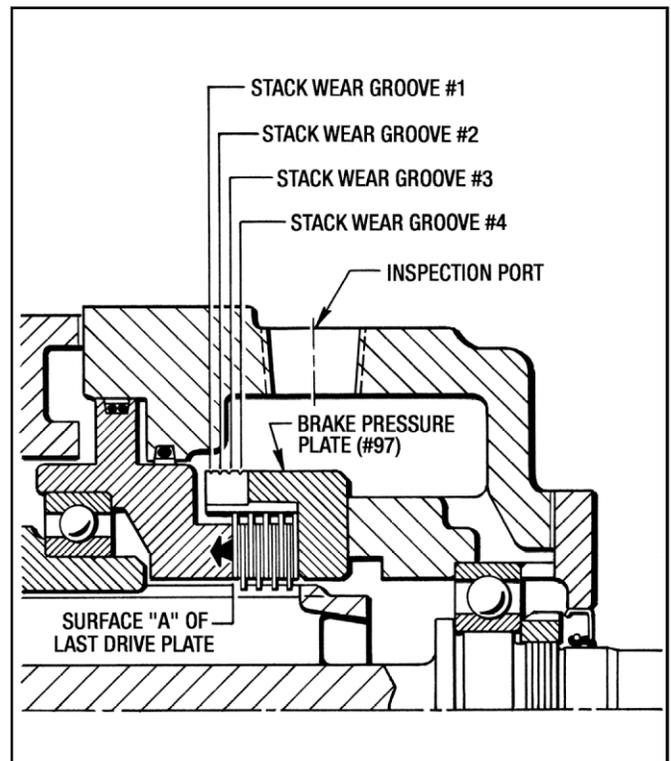

Figure 6.2 - Checking Clutch and Brake Stacks for Wear
A. CLUTCH STACK WEAR (See Figure 6.2)
B. BRAKE STACK WEAR (See Figure 6.2)